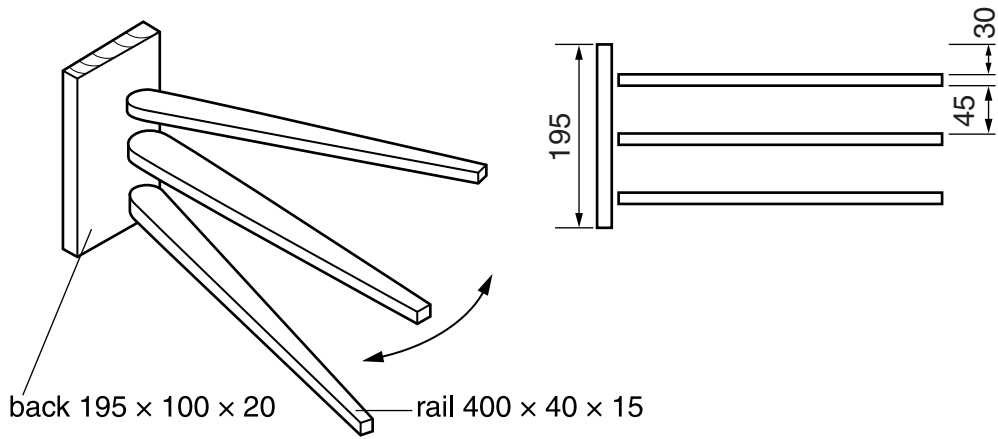

Fig. 14
13 Fig. 14 shows views of an incomplete design for a towel holder made mainly from oak.
- allowed to swing as shown in Fig. 14;